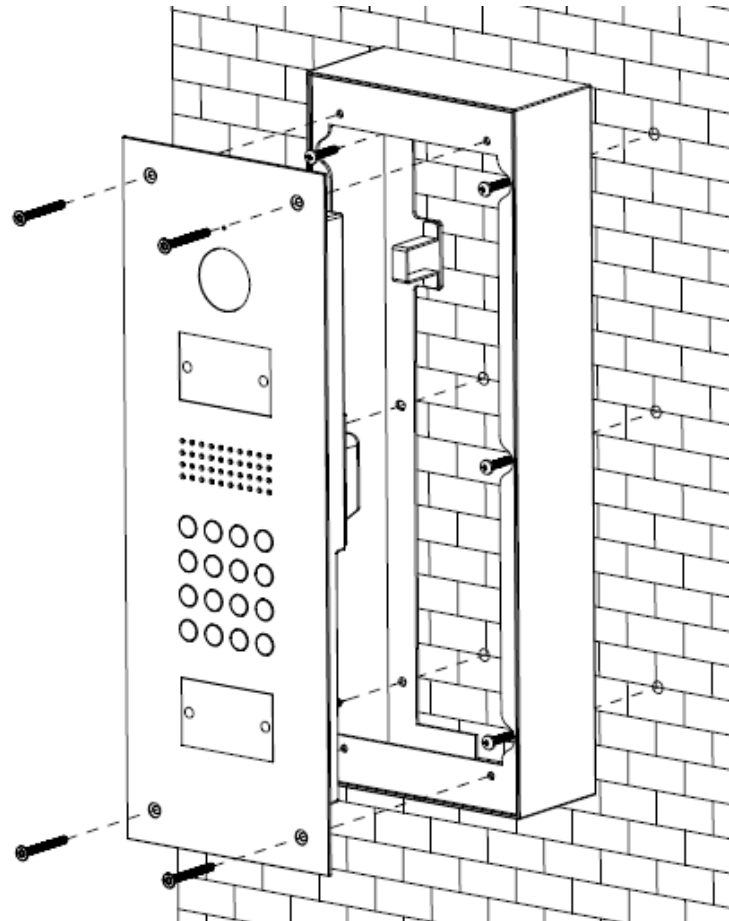

Figure 5-1
- a) Refer to the holes of the installation box to dig six holes on the wall and insert expansion bolts. See Figure 5-1.